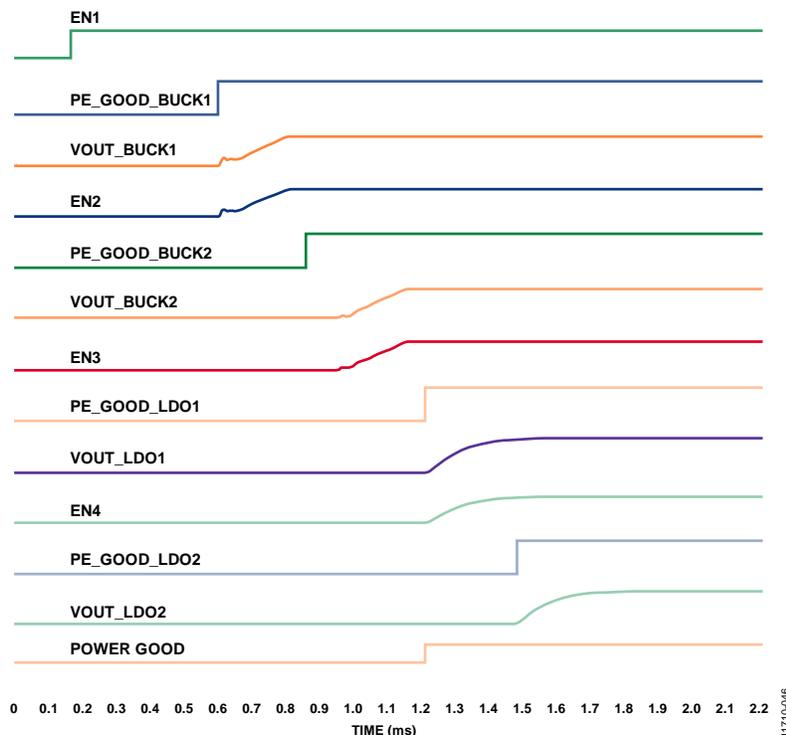

Figure 46. Regulator Sequencing on the ADP5134, Shutdown Control and Precision Enable Thresholds with PG Monitoring BUCK1 Only
A power-good output is available at Pin 6 (PG) to monitor the output voltage of any combination of the four regulators. The PG output can also be factory programmed to monitor a specific regulator channel, such as BUCK1, as shown in Figure 46. The PG pin can connect to a pull-up current to drive external regulators or other circuits. In this configuration, the PG pin goes high when the channels monitored are in regulation and goes low when the output voltage falls below 90% of the nominal  $V_{\text{VOUTX}}$  level. The PG pin can also drive an LED for fault monitoring. For example, in this configuration, a red LED is biased, and current sinks into the PG pin when the output voltage falls below 90% of the nominal  $V_{\text{VOUTX}}$  level. This turns the LED on, and, when the output voltage is in regulation, turns it off.
Figure 46 shows the activation timings for the ADP5134 when regulators are in sequence, VOUT1 controlling EN2, VOUT2 controlling EN3, and VOUT3 controlling EN4. Also shown is the power-good signal monitoring BUCK1 only.